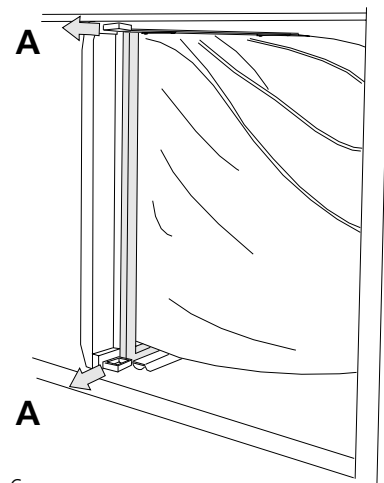

Fig 6
- Pull the handles (A in Fig. 6) at the upper and lower edges of the filter mounting bracket outward, to open the off-centre guide.